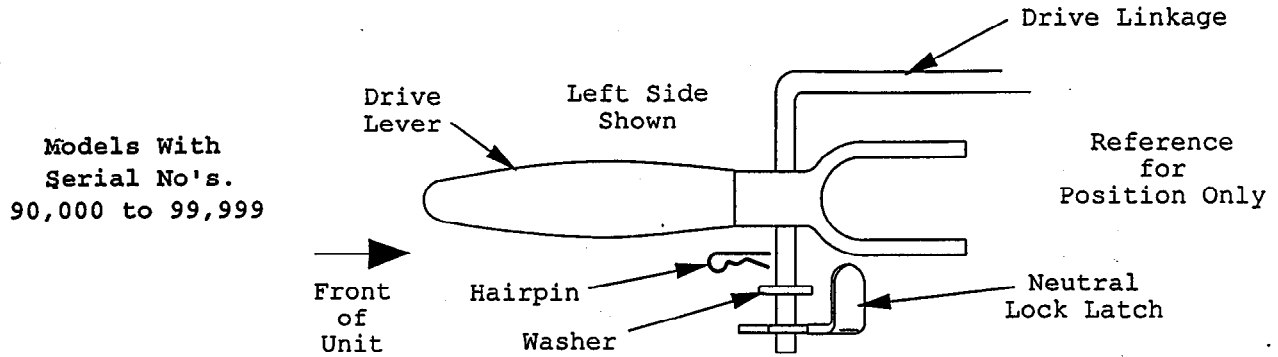

FIG. 13
- d) For Models with Serial No's. 90,000 to 99,999 After proper adjustments have been made, install the $\frac{5}{16}$ " flat washer onto drive linkage between drive lever and thumb latch (neutral lock latch). Install hairpin into hole on drive linkage between washer and drive lever (See Figure 13). Repeat on opposite side of unit.